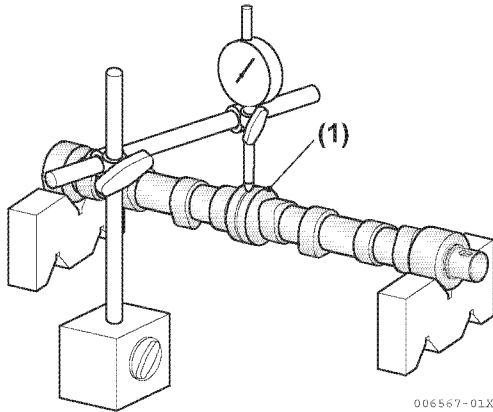

Figure 5-117
- Support both ends of the crankshaft with V-blocks, place a dial gauge at the central bearing areas and measure bending (**Figure 5-117**). Replace if excessive.